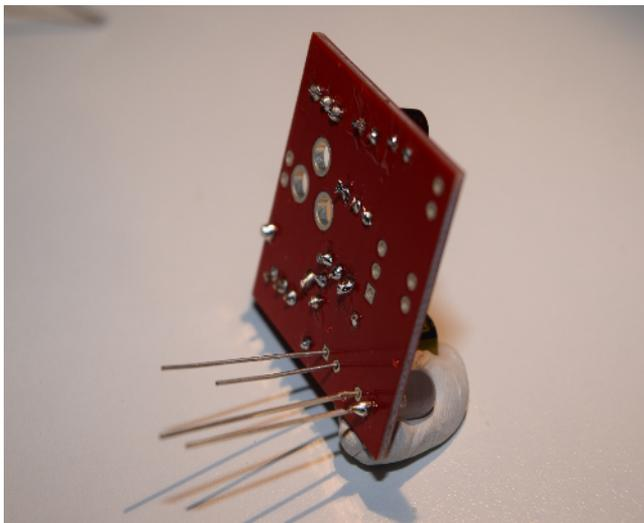

Figure 5-14. *Soldering the LEDs into place*
3. Solder the switches, the large capacitor, and LED into place (Figure 5-14).